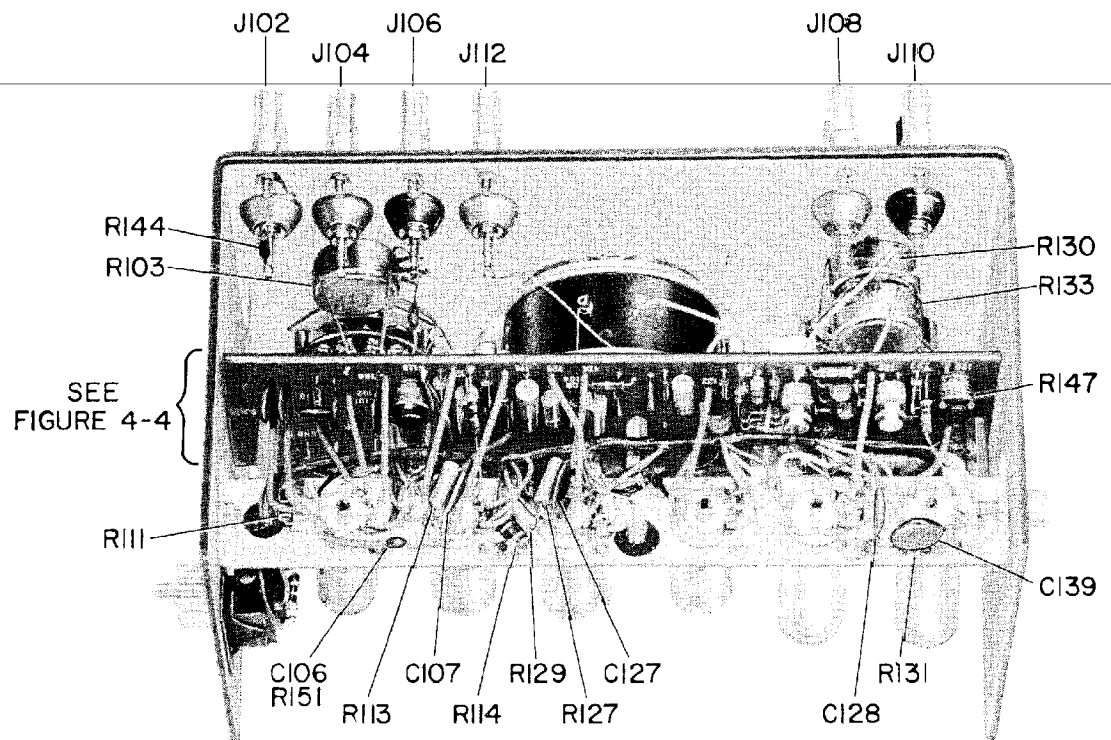

Figure 4-3. Bottom rear interior view.
4.3.2.2 Large Imbalance in Pulse Amplitudes, or Slowly Falling Negative-Going Edge of the Positive Pulse. These defects can be caused by weakening of one of the output tubes. These tubes (V105, V106) are chosen for balance at the factory; if either is defective, therefore, order a replacement set or choose a balanced pair if possible. After replacing the output tubes, reset R147 (Figure 4-3) to produce -150 volts at pin 16 of PL101 with a 300-volt regulated power supply.